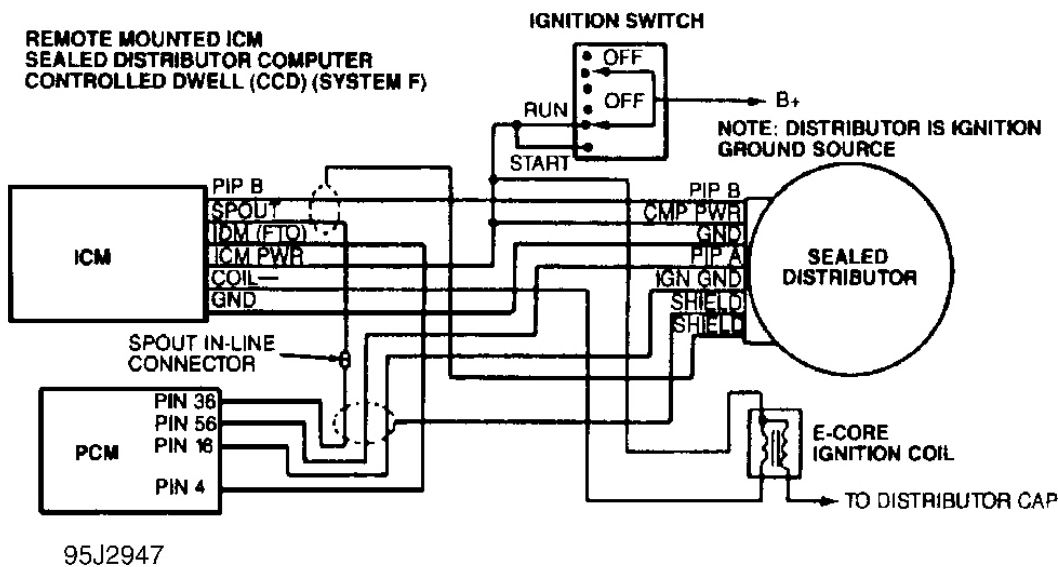

Fig. 3: Remote-Mounted ICM System Diagram
4. **Check For ICM Power** Turn ignition off. Connect EEC-IV Diagnostic Cable (007-00097) to EEC-IV Breakout Box (T83L-50-EEC-IV), negative battery terminal and ICM. See **Fig. 3** . Ensure PIP OPEN/NORMAL/SPOUT OPEN switch is in NORMAL position. Put DI overlay on breakout box.
5. Turn ignition on. Put DVOM on DC voltage scale. Measure voltage between J5 (ICM PWR) and J7 (B -). If voltage is 10 volts or less, repair open in ICM PWR circuit to ICM. See **Fig. 3** . If voltage is more than 10 volts, go to next step.
3. **Check For PIP Signal** Turn ignition off. Connect EEC-IV Diagnostic Cable (007-00097) to EEC-IV Breakout Box (T83L-50-EEC-IV), negative battery terminal and ICM. Leave B+ lead of diagnostic cable disconnected. See **Fig. 3**. Ensure PIP OPEN/NORMAL/SPOUT OPEN switch is in NORMAL position. Apply DI overlay on breakout box. Ensure SPOUT in-line connector is disconnected.
1. **Connect Test Equipment** Turn ignition off. Connect DI Diagnostic Cable (007-00097) to EEC-IV Breakout Box (T83L-50-EEC-IV), negative battery terminal and ICM. See **Fig. 3**. Leave B+ lead disconnected. Ensure PIP OPEN/NORMAL/SPOUT OPEN switch is in NORMAL position. Use DI overlay on breakout box. Disconnect PCM and go to next step.
3. **Check For Good SPOUT To ICM** Connect DI Diagnostic Cable (007-00097) to EEC-IV Breakout Box (T83L-50-EEC-IV), negative battery terminal and ICM. See **Fig. 3**. Leave B+ lead disconnected. Ensure PIP OPEN/NORMAL/SPOUT OPEN switch is in SPOUT OPEN position. Apply DI overlay on breakout box. Set DVOM on AC scale. Start engine and allow to idle. Measure voltage between J7 (B-) and J10 (SPOUT). If AC voltage is 3.0-8.5 volts, replace ICM. If AC voltage is not 3.0-8.5 volts, go to next step.